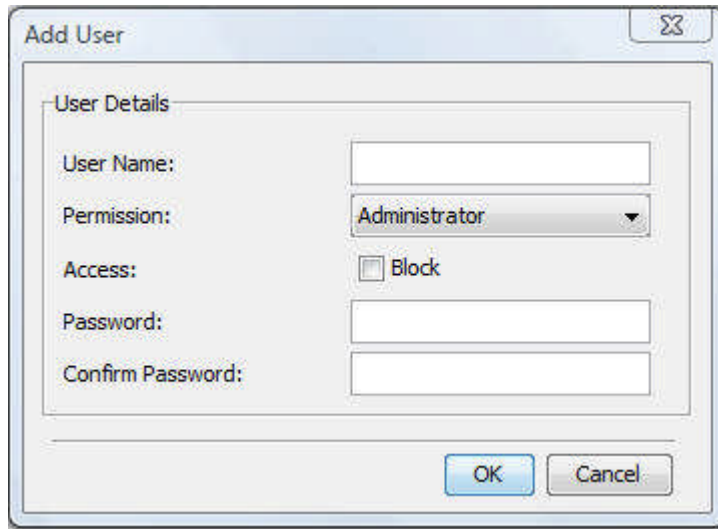

Figure 17 – Add User Page
1. In the **Add User** page (see Figure 17), in the **Access** parameter, select the **Block** checkbox.